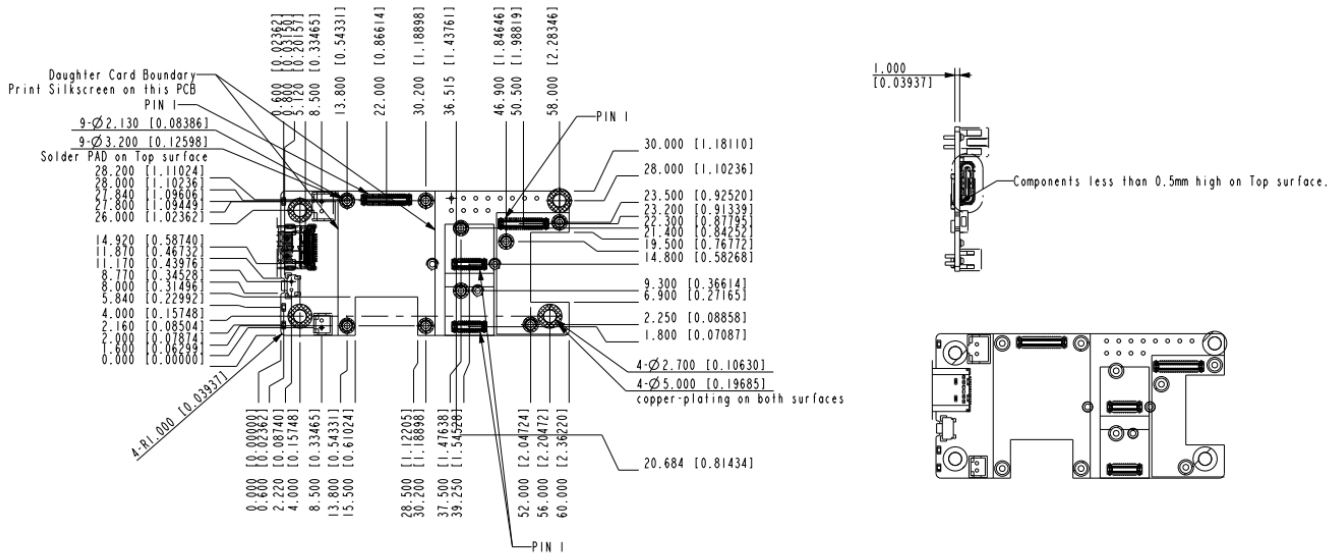
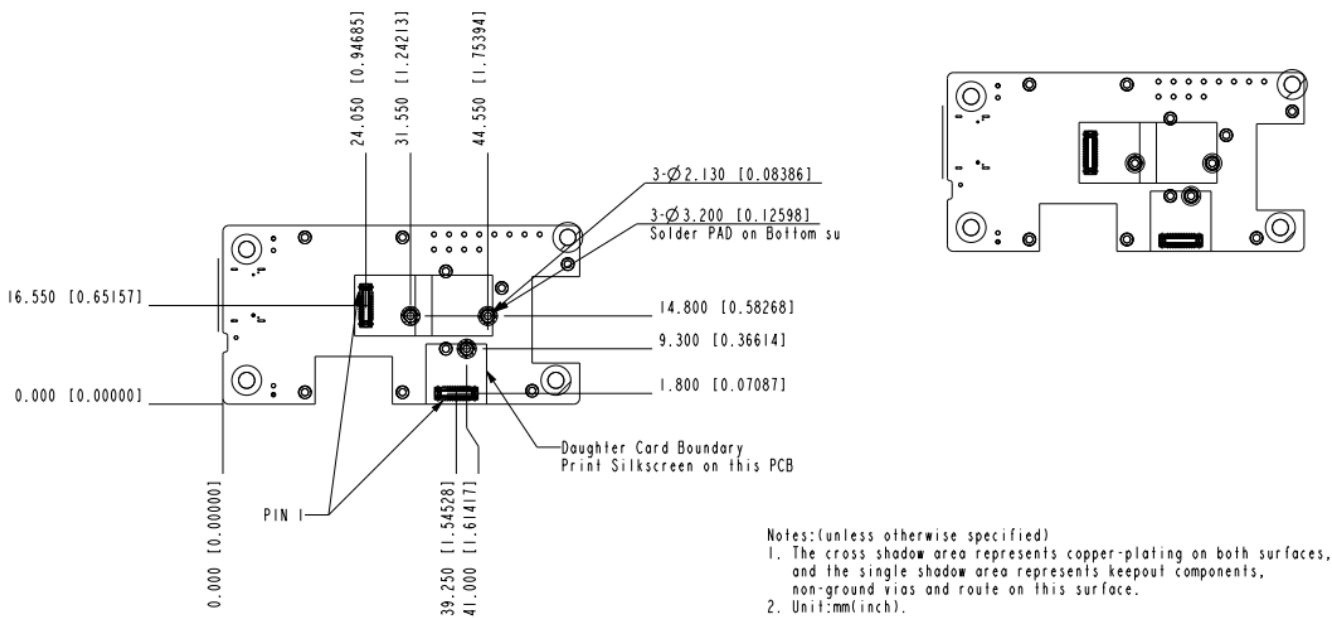

Figure 12: RAK19007 mounting holes location and diameter top view
Figure 13: RAK19007 mounting holes location and diameter bottom view
**Figure 12** and **Figure 13** show the mounting holes location and diameter of the RAK19007 Board.